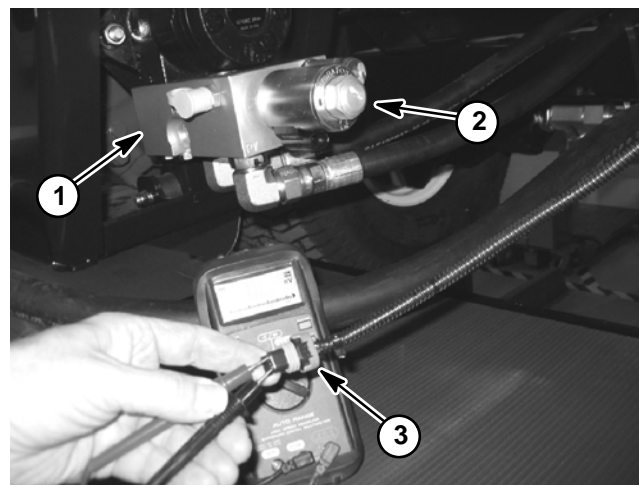

Figure 34
2. Connect one multimeter test lead to one of the wire harness connector leads and the other meter test lead to the second harness connector lead (Fig. 34). Set multimeter to DC Volts setting.